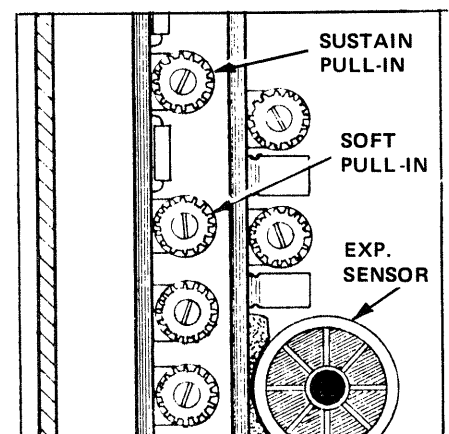

FIGURE 9-23 SUSTAIN Pull-in Control.
L. If the Solenoid is noisy (clunks) when it actuates (pushes too hard on the Damper Lifter Rod), turn the SUSTAIN Pull-in Control (see FIGURE 9-23) SLOWLY COUNTERCLOCKWISE until the Damper Lifter Rod is no longer slamming. (See the CAUTION below.) If the Solenoid is operating properly, proceed to Point P on page 134. If it is not, proceed to Point M on the next page.